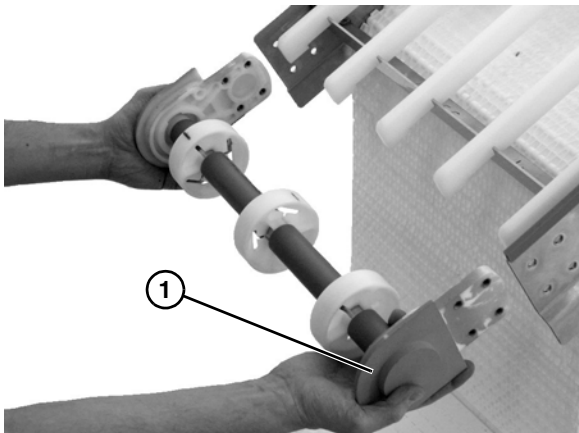

Figure 38
3. Remove idler tail assembly (Figure 38, item 1).